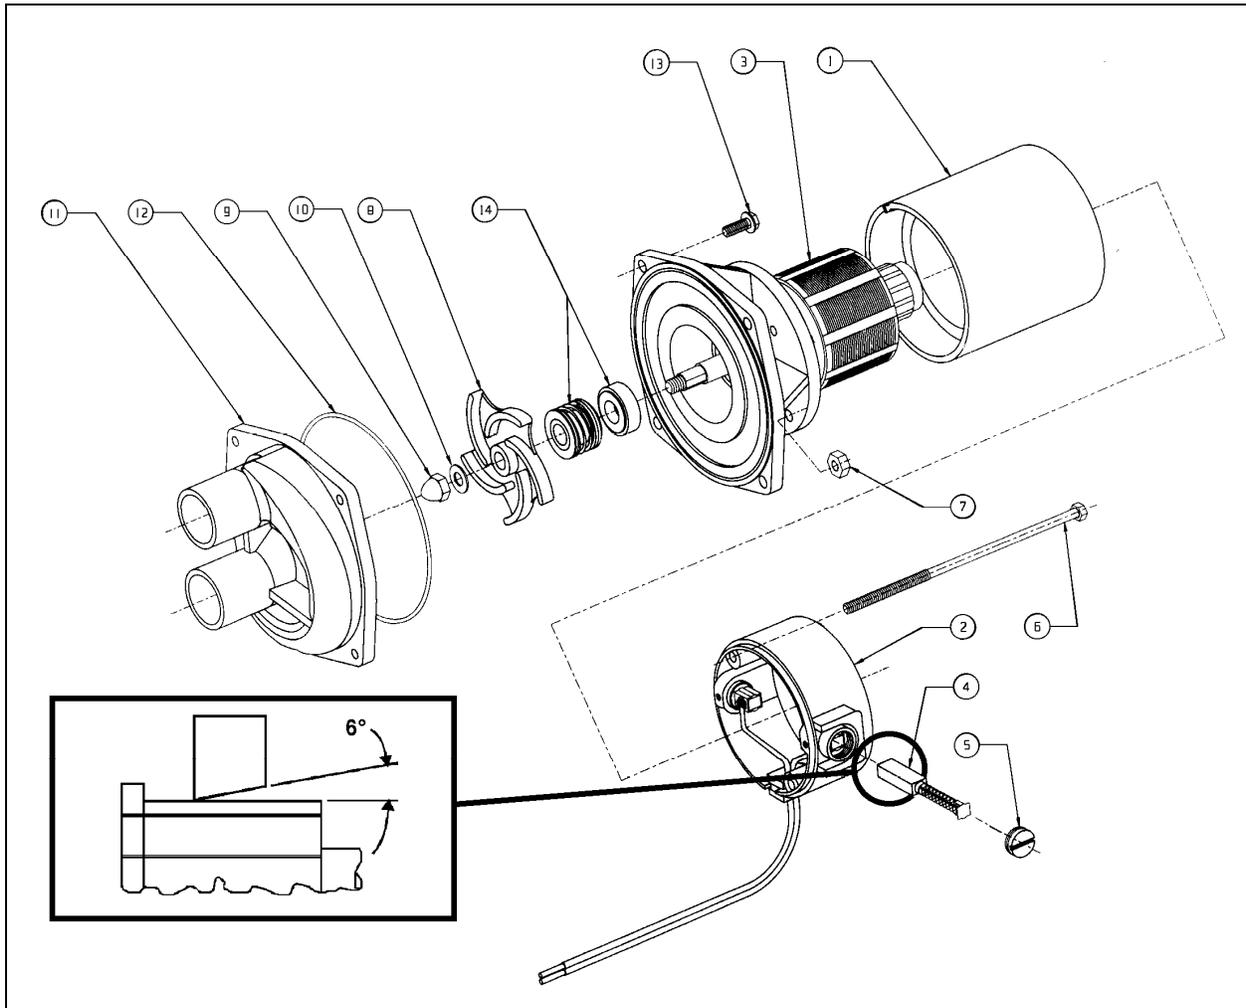
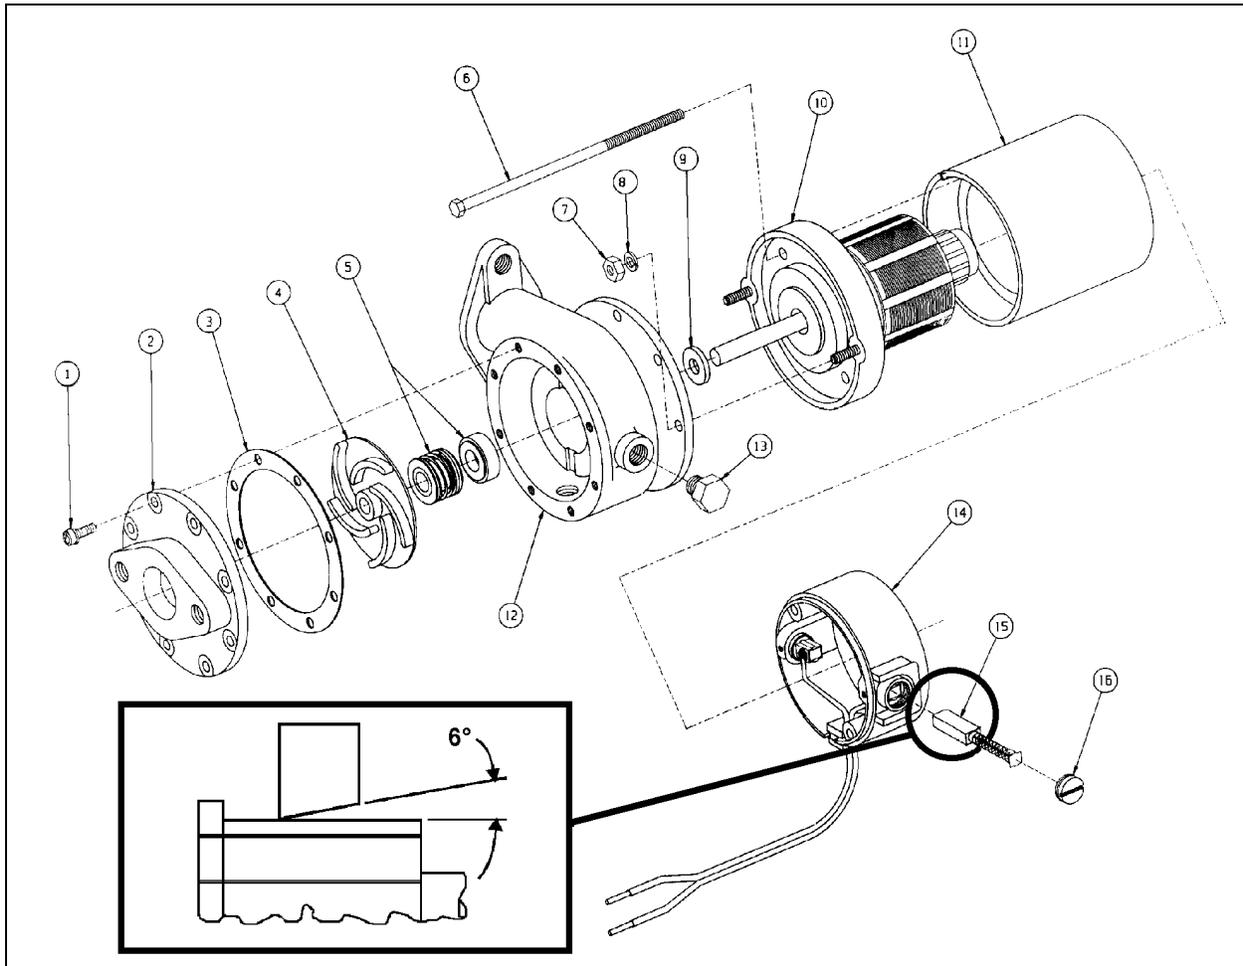

FIGURE 48: WATER RECIRCULATING PUMP (CONVERTED VEHICLE - CENTRAL A/C)
FIGURE 49: WATER RECIRCULATING PUMP (COACH - CENTRAL A/C OR DRIVER'S A/C)
4. **Fig. 49 only:** Remove the drain plug at rear of pump and place a container to recover the residual coolant in the line.
5. **Fig. 49:** Disconnect water lines from pump at flange connections.
6. **Fig. 48:** Disconnect water lines from pump at connections between hoses and copper pipes (leave hoses connected to pump).
-For converted vehicle (shell) central A/C pump, see Fig. 48.
-For coach central A/C pump, or driver's A/C pump, see Fig. 49.
1. **Fig. 48:** Remove two brush caps (5) and two brush assemblies (4). When removing brushes, note the position of the brush in the tube. Brush life is significantly decreased if brushes are not replaced properly.
1. **Fig. 49:** Remove two brush caps (16) and two brush assemblies (15). When removing brushes, note the position of the brush in the tube. Brush life is significantly decreased if brushes are not replaced properly.
2. **Fig. 48:** Remove the pump cover (item #11) by first removing the 4 head screws.
2. **Fig. 49:** Remove the pump cover (item #2) by first removing the 8 head screws. Remove cover carefully to prevent damaging the gasket (3).
3. **Fig. 48:** Remove O-ring (12).
3. **Fig. 49:** Remove gasket (3).
4. **Fig. 48:** Remove two hex nuts (7) retaining pump assembly to motor.
4. **Fig. 49:** Remove two hex nuts and lock washers (7 & 8) retaining pump assembly to motor.
5. **Fig. 49 only:** Remove the pump from the motor as follows:
- a. Install puller tool assembly (MP Co. Part No. 24702 or equivalent) to pump body (12) using four screws removed from the pump cover (2).
6. **Fig. 48:** Remove acorn nut (9) and gasket (10), then remove impeller (8) and components of the pump seal assembly (14).
6. **Fig. 49:** Remove impeller (4) and components of the pump seal assembly (5).
- d. New brushes have a six (6) degree angle. The brush should always be inserted so that the angle is open away from the pump end of the assembly (inset, Figs. 48 & 49).
1. **Fig. 49 only:** Check the shaft slinger (9) to make sure it is tight on the motor shaft. If the slinger slips on the shaft, it should be replaced.
2. **Fig. 48:** Inspect seal assemblies (14) to determine wear. If the seal has leaked, or is badly worn, it is recommended that a complete new seal assembly be installed.
2. **Fig. 49:** Inspect seal assemblies (5) to determine wear. If the seal has leaked, or is badly worn, it is recommended that a complete new seal assembly be installed.
3. **Fig. 49 only:** The impeller (4) is a press fit on the armature shaft. This press fit must be maintained to prevent the impeller from slipping. Install a new impeller if necessary.
1. **Fig. 49 only:** Install slinger (9) on the motor shaft.
2. **Fig. 49:** Assemble body (12) to the motor.
3. **Fig. 48:** Install seal assembly (14).
3. **Fig. 49:** Install seal assembly (5).
4. **Fig. 48:** Insert impeller (8) and secure with acorn nut (9) and gasket (10).
4. **Fig. 49:** Install impeller (4) in the following manner:
5. **Fig. 48:** Install O-ring (12).
5. **Fig. 49:** Install gasket (3). This gasket serves both to seal the cover and to establish the proper clearance between the face of the impeller and the pump cover.